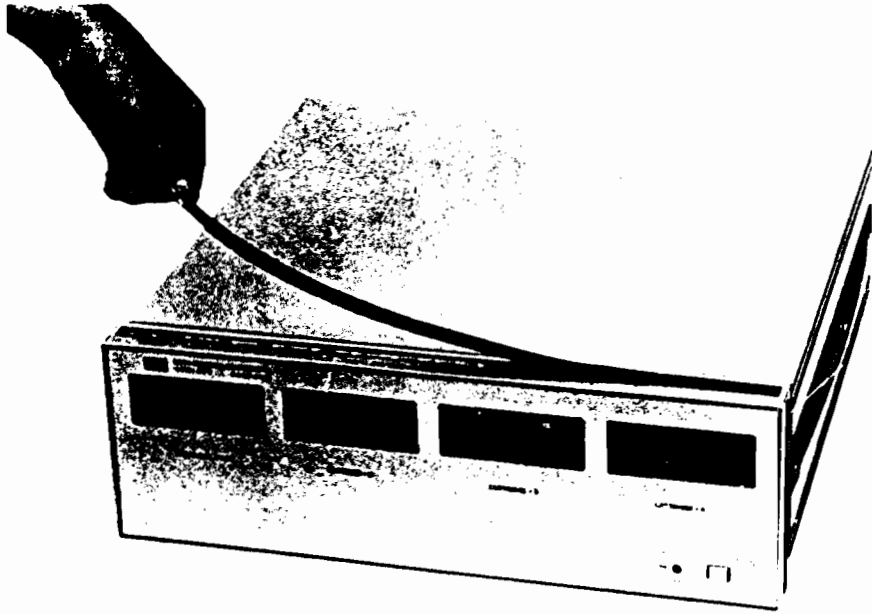

Figure 5-2. Location of front panel screws
5. Remove the top trim as shown in Figure 5-2 and the side trim from the left and right side to gain access to the tape unit securing screws.